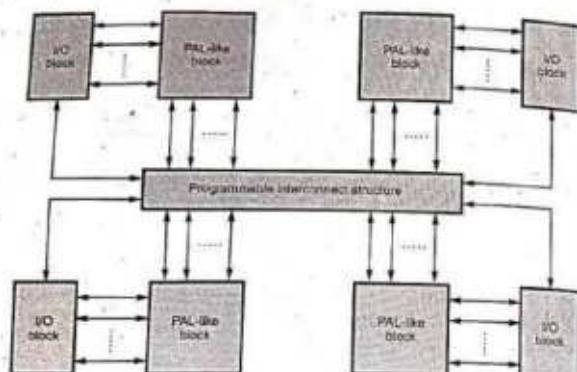

Fig. 7.16.2 Block diagram of CPLD
- The Fig. 7.16.2 shows the block diagram of a Complex Programmable Logic Device (CPLD).